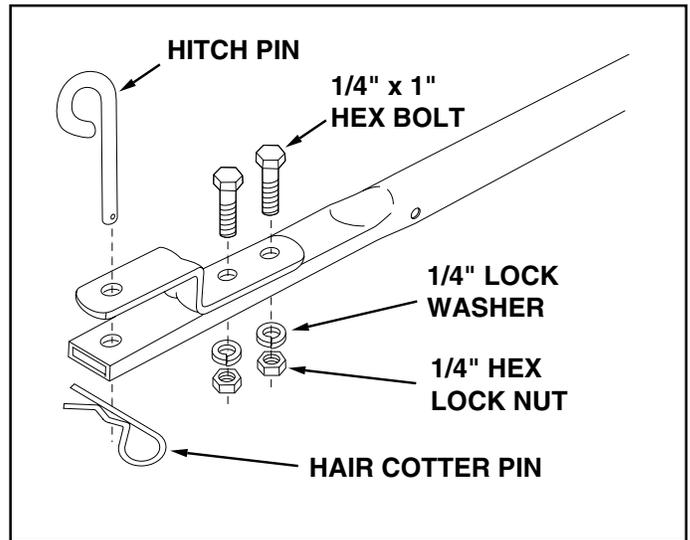

FIGURE 6
14. In order to assemble the hitch bracket to the hitch tube, turn the spreader upright on its wheels. Assemble the bracket to the top of the hitch using two 1/4" x 1" hex bolts, 1/4" lock washers and 1/4" hex lock nuts. See figure 6.